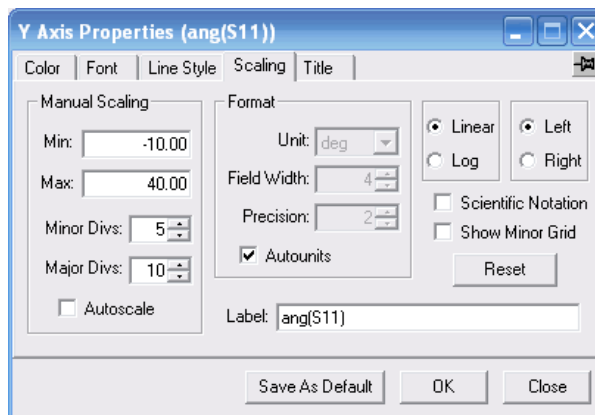

Figure 10. Changing the y-axis properties.
21. As with any plot, we may want to change the scales and/or the appearance of the plot. Suppose we do that by starting with changing the y-axis to display -10° to 40° . Double click anywhere on the y-axis and a Y Axis Properties box will appear. Click on **Scaling** and un-check **Autoscale**. As shown in Fig. 10, change the settings to Min. = -10, Max. = 40, Minor Divs. = 5, Major Divs.=10 and un-check **Show Minor Grid**.